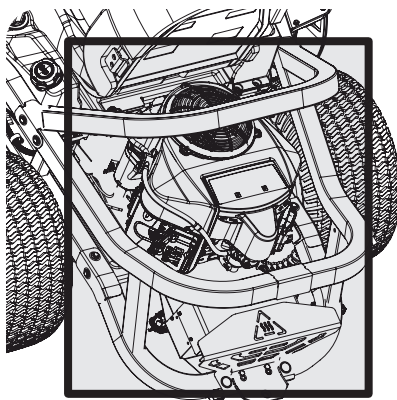

Figure 36
- Keep both sides of transmission cooling slots, exhaust manifold, around fuses, all wiring and harnesses, muffler pipe, muffler shield, engine intake screens and cooling fins, etc. clear of grass clippings and leaves. See Figure 36.